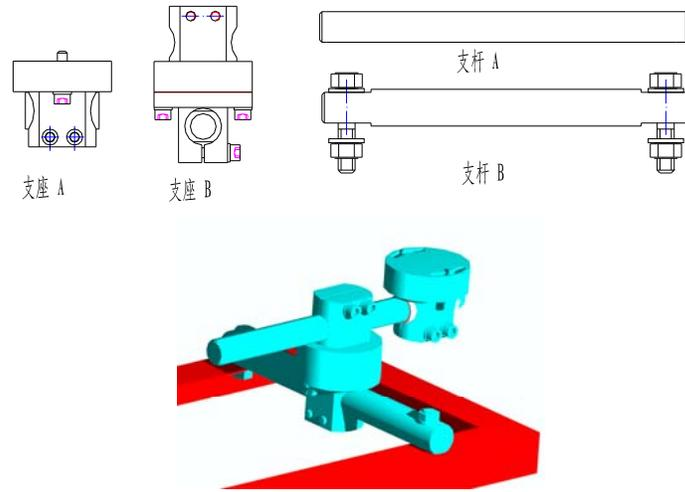

Figure 12 The Universal Bracket and Components
4.3.2.5 When the grout has hardened the stainless steel table can be assembled according to the following instructions illustrated in Figure 12
An alternative to the fixed bracket is the Universal Bracket the components of which are shown in figure 12 below